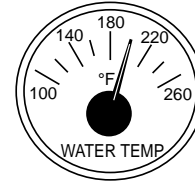

Figure 42. Coolant Temperature Gauge
8. The **coolant temperature gauge** (Figure 42) will indicate the coolant temperature. Under normal operating conditions the coolant temperature should be between 180°~225°F (75°~95°C) (**Green Zone**).